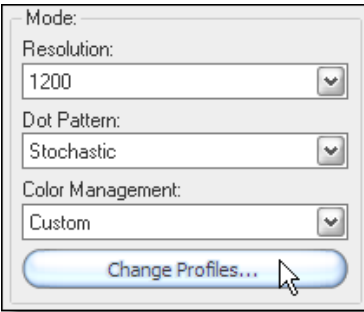

Figure 6—Mode Area
3. Modify the **Color Management** option in the Mode area (see Figure 6).